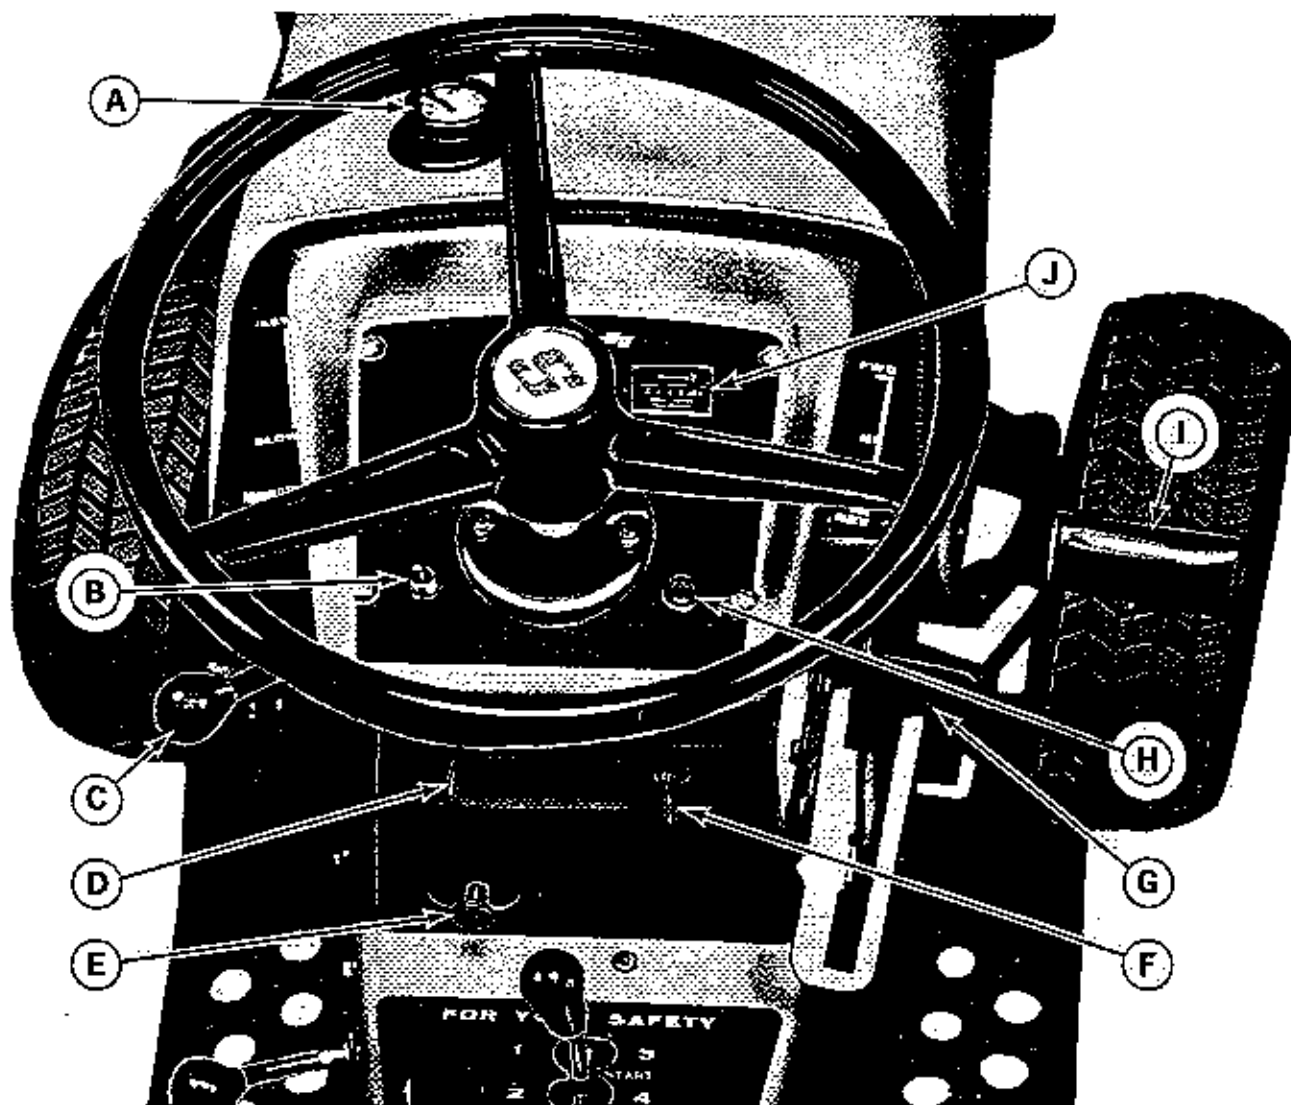

Figure 1. Tractor instrument panel as seen from the operators position on tractor seat.
Picture yourself seated on your Simplicity tractor. Before starting the engine, let's learn how to understand and use the instruments and controls. The paragraphs referring to the instruments and controls are illustrated in figures 1 through 4.
**IGNITION SWITCH:** (Figure 1, item F) To actuate the ignition switch first insert the ignition key as shown. When the key is turned clockwise to the first position, the ignition is ON. In the ON position the lights, hourmeter, etc. will operate. Turn the key clockwise past the ON position to the START position to actuate the starter. **THE TRANSMISSION SHIFT LEVER MUST BE IN THE NEUTRAL POSITION AND THE POWER TAKE OFF CLUTCH CONTROL LEVER (S) MUST BE IN THE DISENGAGED POSITION BEFORE THE STARTER WILL ACTUATE.** Release the
**CHOKE CONTROL KNOB:** (Figure 1, item E) The choke control knob may be pulled out to increase the amount of fuel entering the engine for starting and cold weather warmup. When starting a cold engine in cold weather pull the choke all the way out. Some choke may be required to start the engine when the air temperature is above 70 degrees F or while the engine is still warm from being recently run. After the engine has started, push the choke in slowly. In cold weather it may be necessary to leave the choke pulled out slightly for three or four minutes while the engine warms up. **NEVER OPERATE THE ENGINE WITH THE CHOKE OUT AFTER IT HAS HAD SUFFICIENT TIME TO**
**GENERATOR WARNING LIGHT:** (Figure 1, item H) The generator light will warn you if the generator or voltage regulator on your tractor is not functioning properly. It is normal for the generator light to come on when the ignition switch is in the ON position and the engine is stopped or running at low speed. The light should go out when the engine is running at higher speeds. If it does not the generator or voltage regulator is not functioning properly. Check the generator belt adjustment as described on page 13. See your Simplicity dealer if the light will not go out after the belt is adjusted.
**HOURLMETER: (OPTIONAL)** (Figure 1, item J) The hourmeter is useful in keeping accurate maintenance records and telling how much time the tractor has been used on a particular job. It operates anytime the ignition is turned on whether the engine is running or not.
**FUEL GAUGE AND FILLER CAP:** (Figure 1, item A) The fuel gauge indicates fuel level. **BEFORE ADDING FUEL, SHUT OFF THE ENGINE AND ALLOW IT TO COOL SEVERAL MINUTES.** Turn the cap counterclockwise to remove it and add fuel. The 3 gallon capacity provides about 3 hours of mowing. Use leaded or non-leaded **REGULAR** grade automotive gasoline. **CAUTION: DO NOT ALLOW LIGHTED CIGARETTES, MATCHES, ETC., AROUND ANY OPEN GASOLINE CONTAINER. DO NOT OVERFILL; WIPE UP ANY SPILLED GASOLINE.**
**LIGHT SWITCH: (OPTIONAL)** (Figure 1, item D) The switch should be moved up to the ON position to turn on the tractor lights. To prevent the lights from being turned on by unauthorized persons, the ignition switch must also be in the ON position for the lights to operate. To turn the lights off, push the light switch down to the OFF position. **DO NOT OPERATE THE LIGHTS FOR LONG PERIODS OF TIME (MORE THAN 20 MINUTES) WHEN THE GENERATOR LIGHT IS ON OR THE BATTERY MAY DISCHARGE ENOUGH SO IT WILL NOT START THE ENGINE.**
**POWER LIFT SWITCH: (OPTIONAL)** (Figure 1, item B) The power lift switch controls the electrically operated power lift unit. Push the toggle switch forward to raise a front, center or rear mounted attachment. Pull it back toward you to lower the attachments. The power lift will stop and hold in any position when you release the toggle switch. The height indicator (Figure 6, item A) on the left side of the tractor shows attachment position. The lift motor will ratchet when it has reached the end of its travel. Ratcheting is not harmful to the unit, but releasing the toggle switch as soon as ratcheting begins will prevent unnecessary wear. If the motor is allowed to ratchet for an extended period of time, a circuit breaker will open, disconnecting power to the lift motor. It will automatically reset after about a minute.
**CLUTCH AND BRAKE PEDAL:** (Figure 1, item I) Depressing the pedal will first disengage the tractor drive clutch. As you continue to depress the pedal, the brakes will
be applied to stop the tractor. The clutch-brake pedal may be depressed for shifting transmission gears, but it is not necessary if the shuttle drive control lever (Figure 1, item G) is in the neutral position.
**SHUTTLE DRIVE CONTROL LEVER** (Figure 1, item G) The position of this lever determines whether the tractor moves forward or reverse or remains stationary. It can also be used for short periods of time to reduce tractor travel speed in either forward or reverse, or used to stop tractor travel by pulling it toward the opposite position.
Although the tractor may be shifted into or out of any gear by depressing the clutch-brake pedal, it may be shifted more rapidly by placing the shuttling control lever in the center **NEUTRAL** position as shown in figure 1. The brake which is automatically applied when this lever is in neutral, stops "spinning" of the transmission input shaft to facilitate shifting.
**SPEED CONTROL LEVER:** (Figure 1, item C) The engine speed control lever is used to set the desired engine speed. The speed control lever should be moved forward away from the operator to increase engine speed or back toward the operator to reduce engine speed. Consult the appropriate section of this manual for specific information on suggested settings of the engine speed control lever. For example: starting the engine, page 5. Controlling tractor ground speed page 5, and the Operation Chart on page 7.